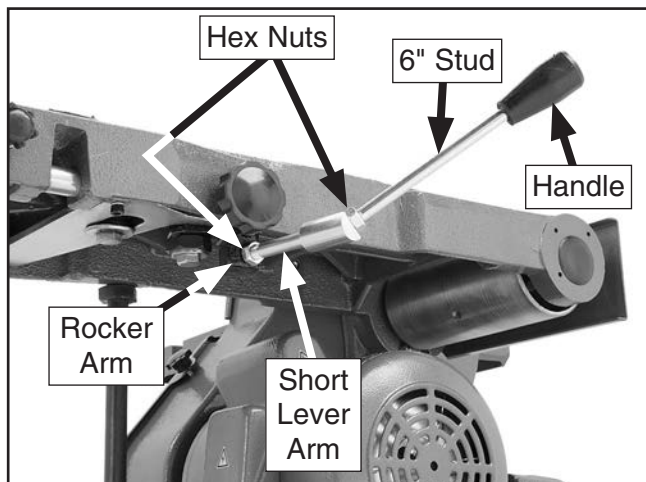

Figure 39. Quick release lever installed.
34. Assemble the quick release lever, as shown in **Figure 39**, using the handle, 6" quick release lever stud, short lever arm, and (2) 3/8"-16 hex nuts.
35. Thread the assembly from **Step 34** into the rocker arm, then tighten the hex nuts (see **Figure 39**).